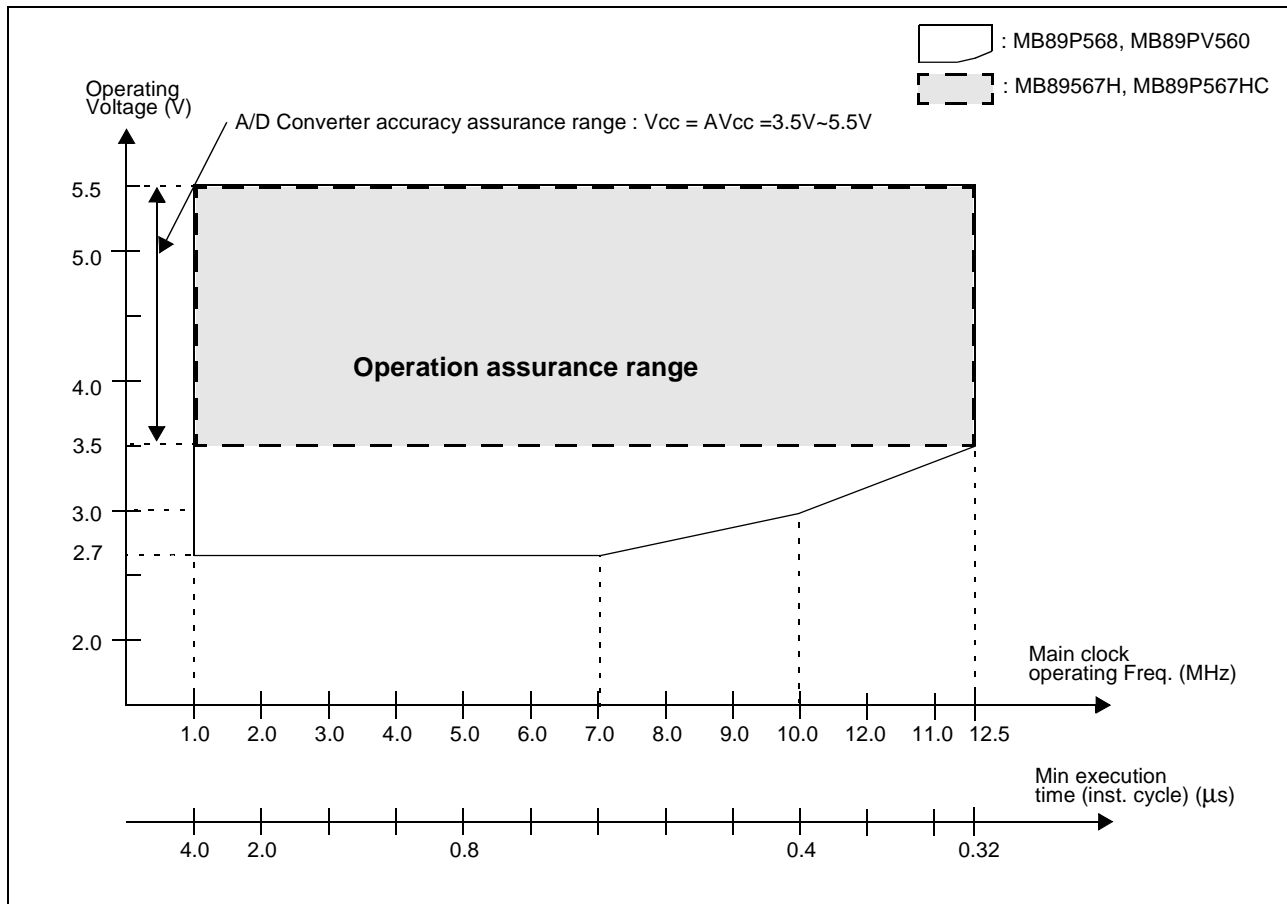

Figure 1 Operating Voltage vs. Main Clock Operating Frequency
* : These values depend on the operating conditions and the analog assurance range. See Figure 1, Figure 2, Figure 3 and "5. A/D Converter Electrical Characteristics."